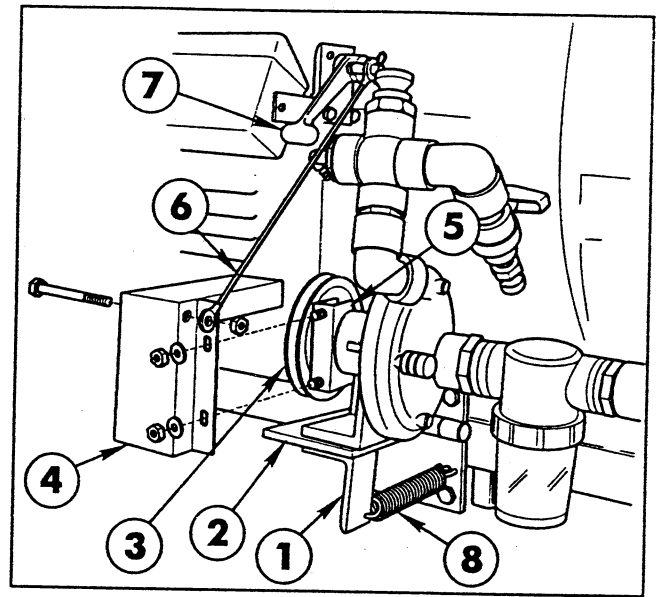

FIG. 14
3. Secure the Centrifugal Pump in a vise. Apply thread sealer and install the fittings to connect the Suction, Supply, Agitator and Rinse/Hand Gun Hoses to the Pump as shown in FIG. 14.
5. Assemble the Centrifugal Pump and the Spring Mounting Angle to the Pump Pivot Plate, using two (2) 3/8" x 1-1/2" cap screws, flat washers and lock nuts as shown in FIG. 14.